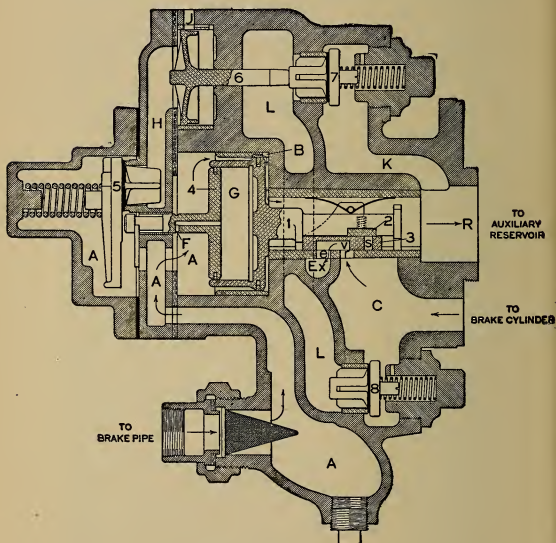
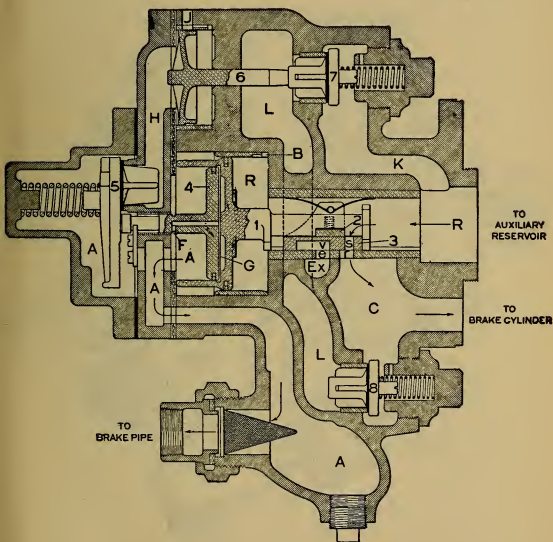
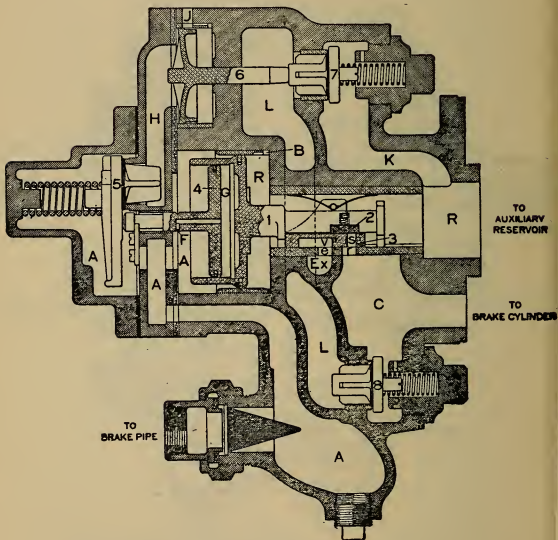

Fig. 27.—Release Position.
Fig. 28.—Service Application Position.
Fig. 29.—Lap Position.
Fig. 27 shows the triple in release and charging position. Air from the brake pipe enters the triple valve at "A" and passes through the feed groove "B" to the auxiliary reservoir "R," until the auxiliary reservoir and brake
A service reduction of the brake pipe pressure, permits the auxiliary reservoir pressure to move the piston slide and graduating valve to the left, to service application position, as shown in Fig. 28. The first movement of the piston closes the feed groove "B" and the graduating valve moving with it, uncovers port "S." The slide valve then moves to the left closing the exhaust port, "E," and bringing the service port "S" directly over port "R," allowing auxiliary reservoir air to pass through ports "S" and "R" to the brake cylinder. When the brake valve has been lapped, and the flow of air from the auxiliary reservoir to the brake cylinder has reduced the pressure in the former slightly less than that in the brake pipe, the brake pipe pressure moves the piston and graduating valve to the right, to lap position, closing port "S." Fig. 29. Further reductions of the brake pipe pressure produce the same action of the triple piston and graduating valve, until a full service reduction of about twenty pounds has been made, when the piston and slide valve and graduating valve will remain in the position shown in Fig. 28, and the brake cylinder and auxiliary reservoir pressures will be equal.
When piston (6) moves to the right, it also unseats quick action valve (7), permitting auxiliary reservoir air to flow rapidly through passages "K" and "L," unseating check valve (8) and passes into "C" and the brake cylinder. Auxiliary reservoir air also flows through the service ports "S" and "R" to the brake cylinder, thus causing an instant equalization of the auxiliary and brake cylinder pressure. As soon as equalization takes place, the springs return all emergency parts to their normal position, leaving only the piston slide and graduating valve in the application position, as shown in Fig. 28. When the brake pipe pressure is restored, they return to release position, Fig. 27.